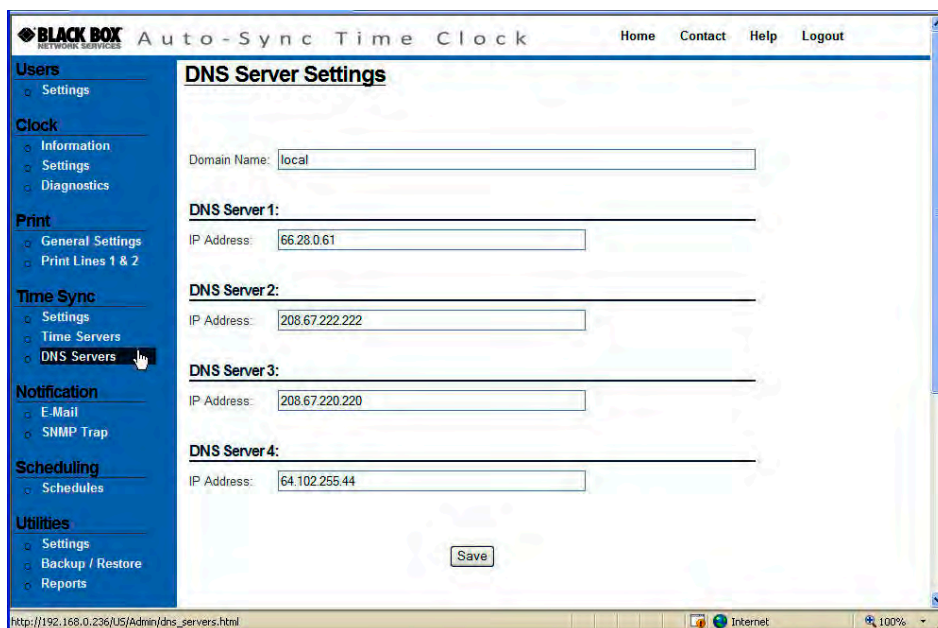

Figure 7-2. Configure DNS Server Settings.
2. Click on the **DNS Servers** link under Time Sync, and the **DNS Servers Settings** screen will appear displaying the four (4) default public DNS servers (see *Figure 7-2*).